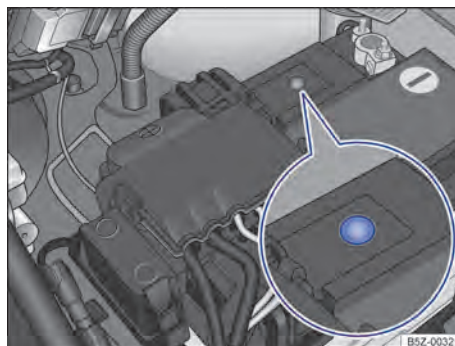

Fig. 193 On the engine compartment: example of display position on the upper side of the vehicle battery.
- The round display → Fig. 193 on the top side of the vehicle battery changes its colour according to the electrolyte level.